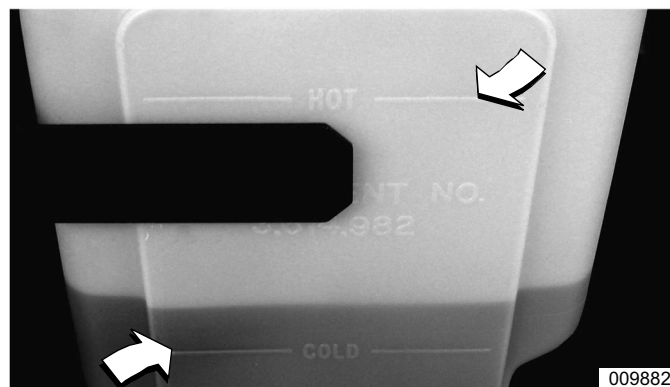

Figure 5-6. Coolant Overflow Reservoir
1. See Figure 5-6. Verify coolant level is between HOT and COLD marks on the overflow reservoir.